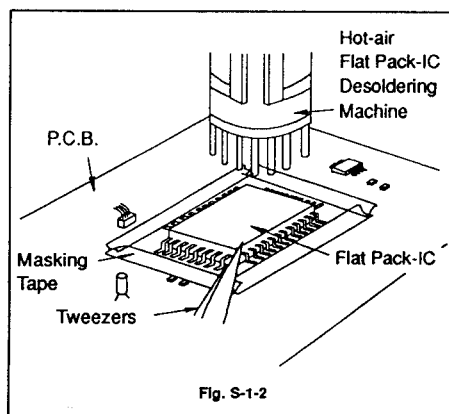

Fig. S-1-2
- Do not supply the hot air to the chip parts around the Flat Pack - IC for over 6 seconds as damage may occur to the chip parts. Put Masking Tape around the Flat Pack - IC to protect other parts from damage. (Fig. S-1-2)